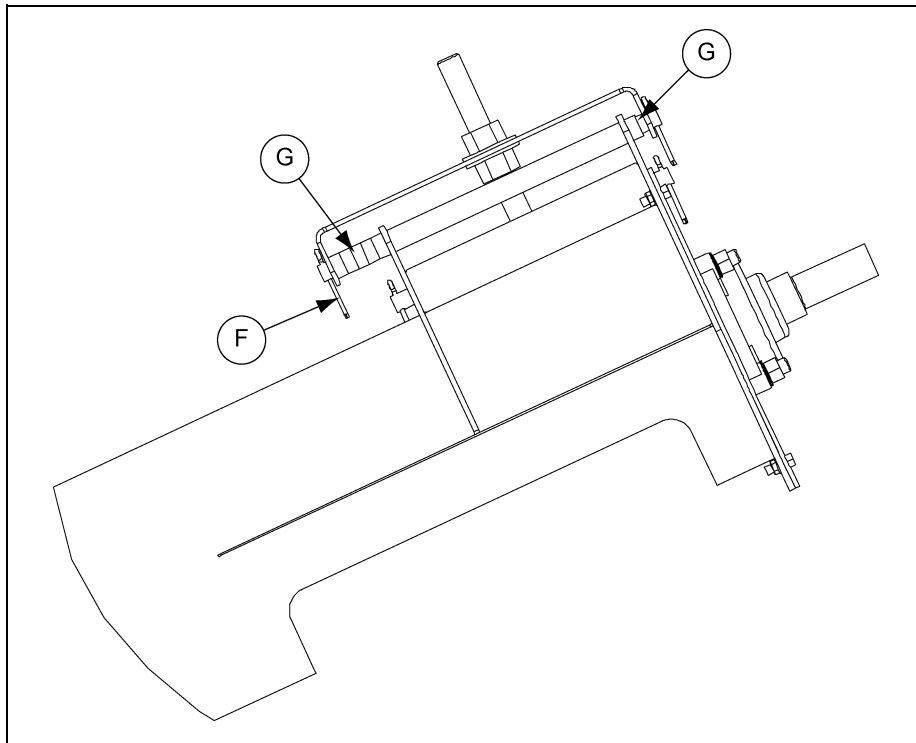

Figure 4F
3. Slide the motor mount pivot rod (G) through the pivot tube on the discharge tube.
4. When the pivot rod begins to extend through the pivot tube, install the spacers (G) BETWEEN the back plate and the inner face of the motor mount plate. *(See Figure 4F.)*